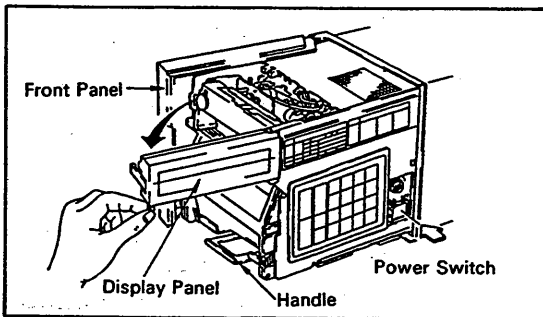

Figure 5-9. Drawing Out Internal Assembly.
- (1) Open the recorder front panel and pull the handle to draw out the internal assembly (see Figure 5-9).
- (2) Turn OFF the power switch.
- (3) Open the display panel (see Figure 5-9).